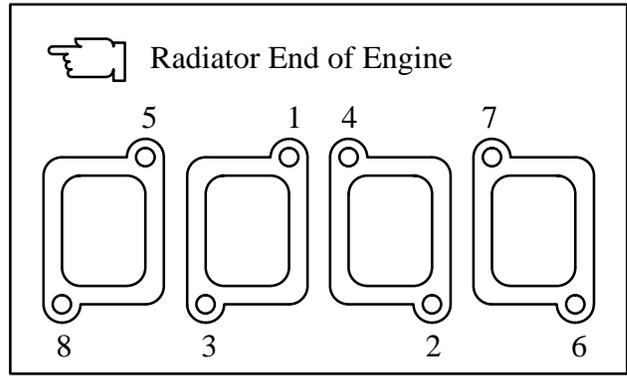

Figure 1. Exhaust Manifold Torque Sequence
7. Position four new exhaust manifold gaskets (246060) between new manifold (256979) and engine; secure exhaust manifold/gaskets to engine with bolts removed in step 5. Torque manifold mounting bolts to 204 in. lbs. (23 Nm) in the sequence shown in Figure 1.